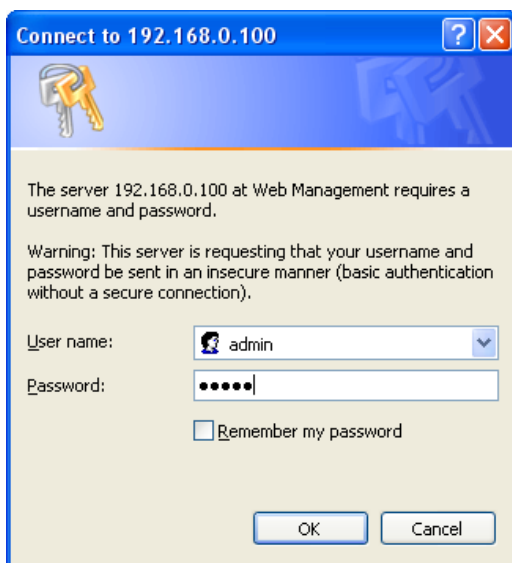

Figure 6-2 Login Screen
2. When the following dialog box appears, please enters the default user name **"admin"** and password **"admin"** (or the username/password you have changed via console). The login screen in Figure 6-2 appears.